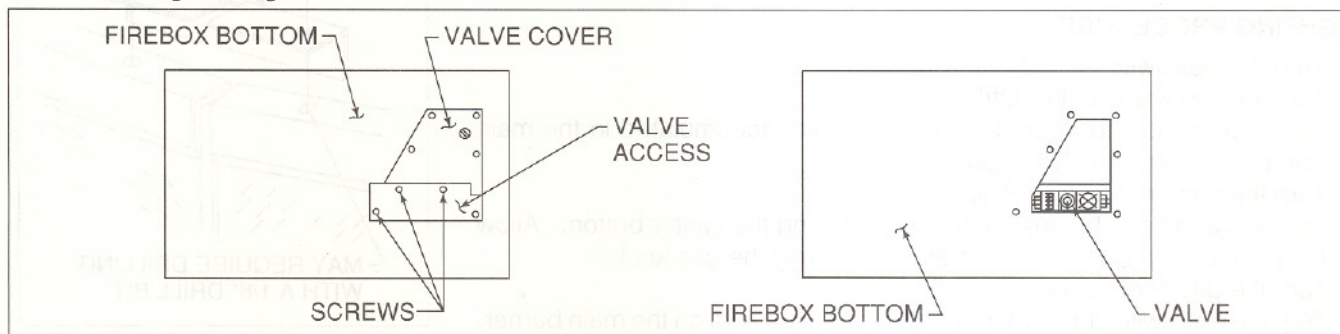
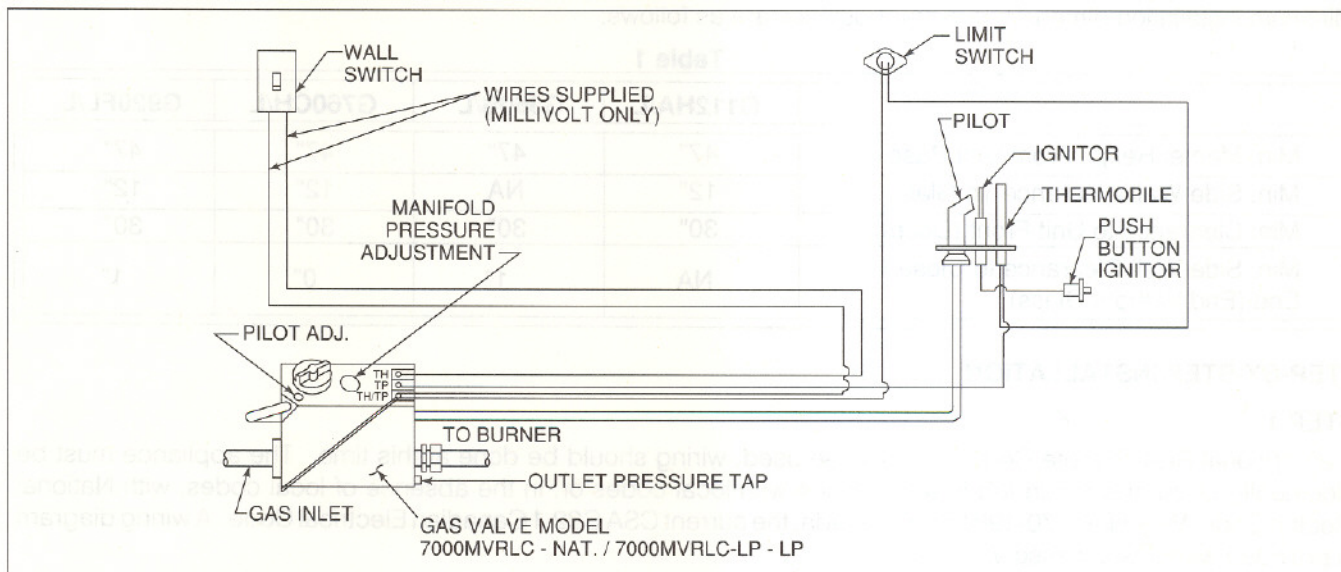

Figure 2
Figure 3
Connect the wall switch wires to the valve as shown in Figure 3. To ease in making connections, remove the logs, grate, valve access and valve cover assembly. The wall switch should be installed in a convenient location. A wall switch and 18 ga. wire are provided with the unit. Pass the wire through the plastic wire pass-throughs located on the right hand side of the unit. **NOTE: The maximum length is 40 ft.** Connect the gas line to the appliance valve inlet, using 3/8" pipe. Check for gas leaks with a soap and water solution. See Figure 2 for the location of gas valve. It is recommended to use a flexible gas connector to ease in installation. Run the 3/8" pipe approximately 3" into the unit. Connect a 12" to 18" flexible connector to the pipe and valve. Return all components to their correct position.
1. Remove the pilot adjustment cap. See Figure 3.